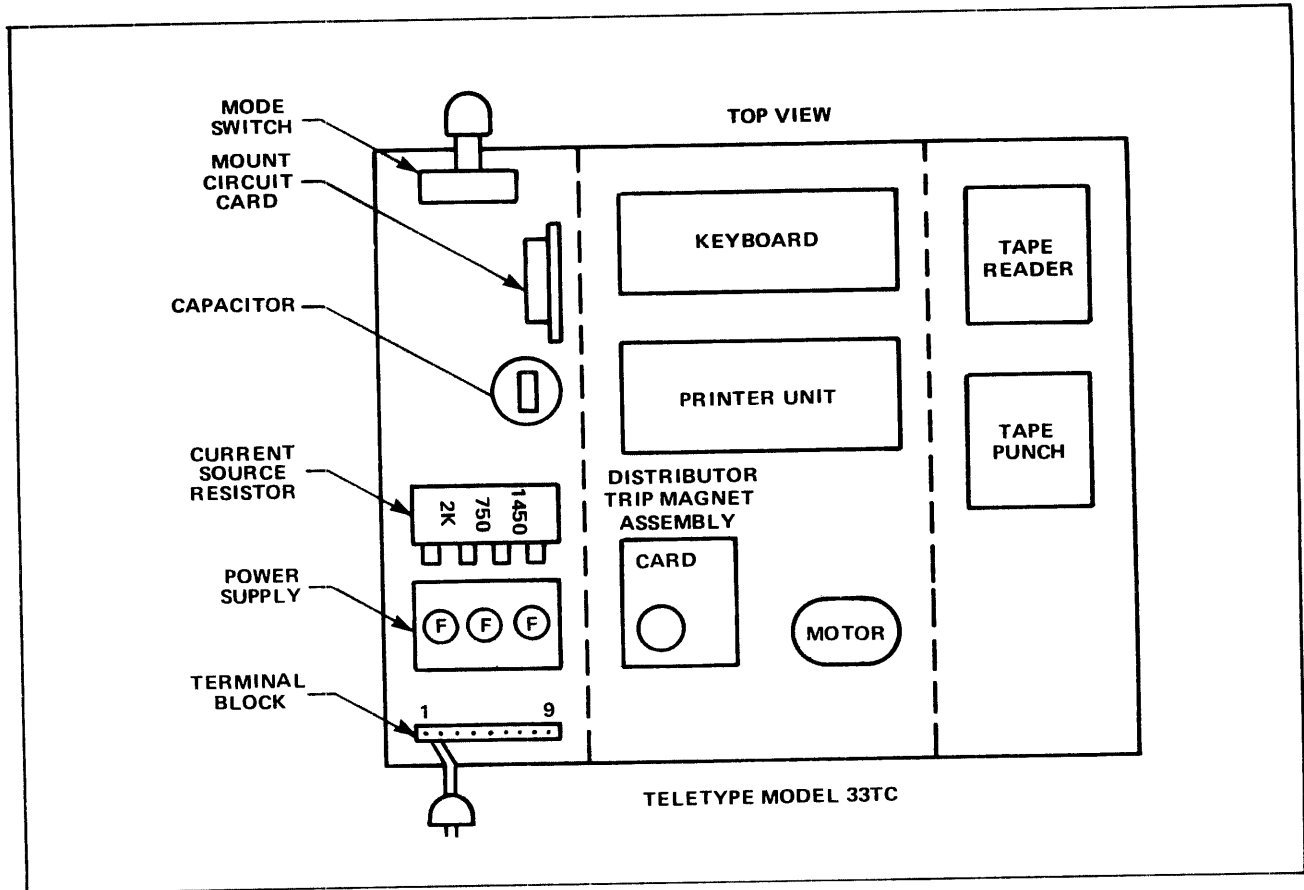

Figure A-1. Teletype Component Layout
- a. Remove blue lead from 750-ohm tap on current source resistor, reconnect this lead to 1450-ohm tap. (Refer to figures A-1 and A-2.)
- b. On terminal block, change two wires as follows to create an internal full-duplex loop (refer to figures A-1 and A-3):